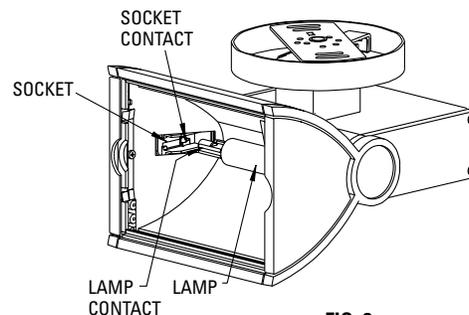

FIG. 8
5. To insert LAMP (70W CDM or CMH T-6 Double Ended Metal Halide M85), carefully push one end of the LAMP CONTACT into one end of the SOCKET CONTACT until the other end of the LAMP can be inserted into the opposite SOCKET (See FIG. 8).
6. Insure both LAMP CONTACTS are properly seated into the SOCKET CONTACTS (See FIGS. 8 & 9).